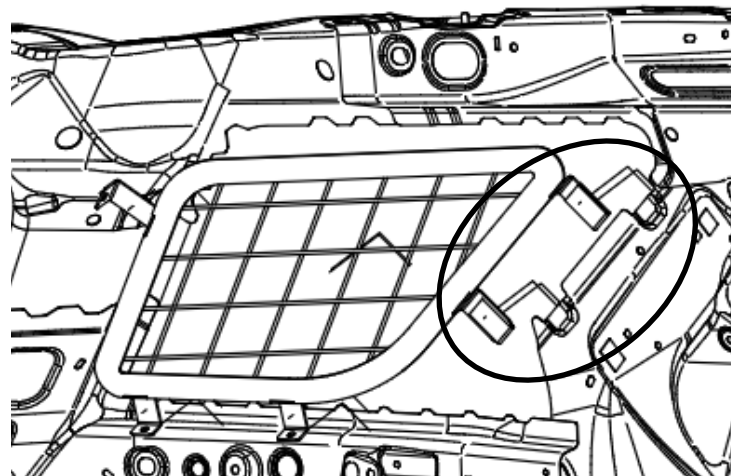
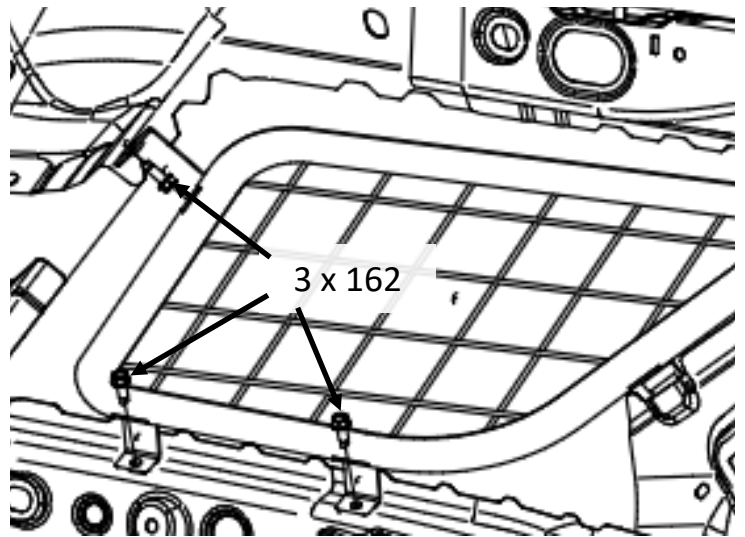

Fig. 1
Fig. 2
- B. Carefully insert the 'tab' into the lower slot at the front of the window opening. (See Fig. 1). Once seated secure the guard to the vehicle with the provided self-tapping screws. (See Fig. 2). It may be necessary to drill a 7/64" pilot hole before using the self-tapping screws (use 3/8 socket).